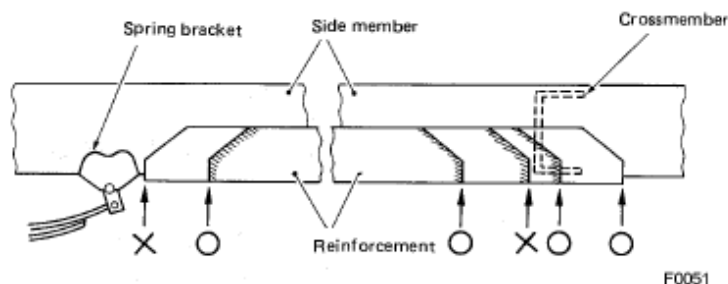

Fig. 3-20
5. The end of the reinforcement should not be aligned with any existing chassis frame rigidity changing point (end of existing reinforcing) or a concentrated load input point. In other words, the starting and ending points of the reinforcement should be sufficiently separated from, or sufficiently overlapped with, the existing reinforcement end, crossmember end, spring bracket, cab back, and sub-frame starting point, etc. (Fig. 3-20).